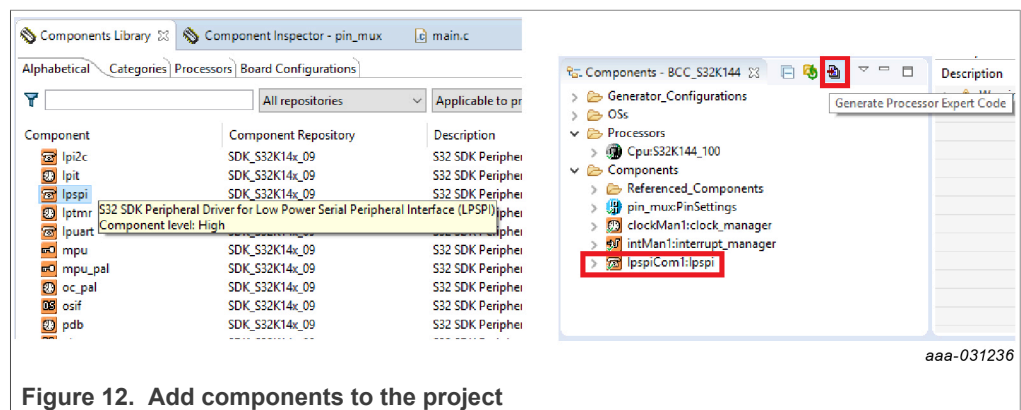

Figure 12. Add components to the project
1. In order to implement the platform specific (external) functions of the BCC software driver, LPSPI and GPIO S32K1xx SDK drivers are required. The GPIO driver is already attached to the project. In order to generate the LPSPI driver into the project, double-click **lpspi** in the **Components Library** window. See Figure 12. If the **Components Library** window is hidden, open it by clicking **Processor Expert > Show Views**. When the **lpspi** component is included in the PEx file, it is shown in the **Components** window. See Figure 12.
4. In the **Components** window, click the **Generate Processor Expert Code** icon to generate the component settings into `Generated_Code` folder. See Figure 12.